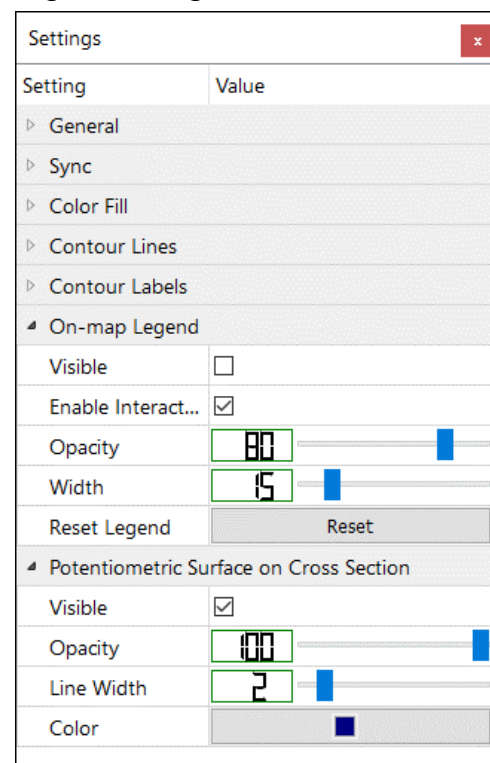

Figure 152. The On-map Legend and Potentiometric Surface on Cross Section groups of the Settings window for Contour Maps
6. On-map Legend (Figure 152)
7. Potentiometric Surface on Cross Section (Figure 152). This group appears only if the result data type is Hydraulic Head. See Section 4.2.2.2 for details.